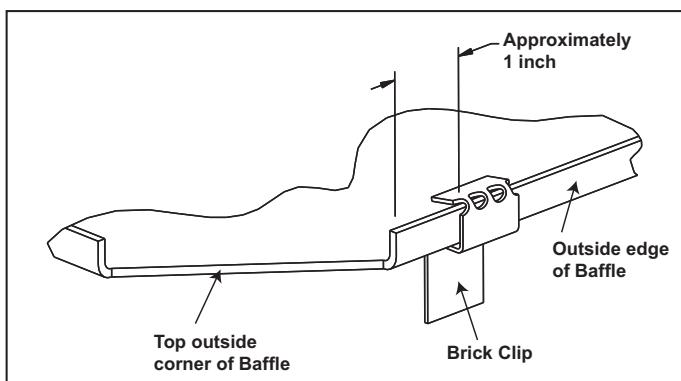
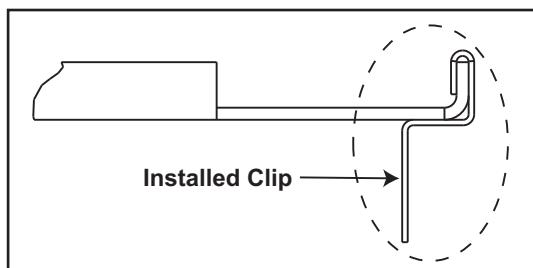

Figure 24.4
Figure 24.5
- Complete brick set, correctly installed. **Figure 24.4.**
- Using pliers, bend the brick clip slightly past 90° in the direction shown in **Figure 24.4.**
- Position the brick clip as shown in **Figure 24.4** and use pliers to crimp around the outside edge of the baffle. **Figure 24.5** shows the finished shape of the brick clip after being bent around the outside edge of the baffle.